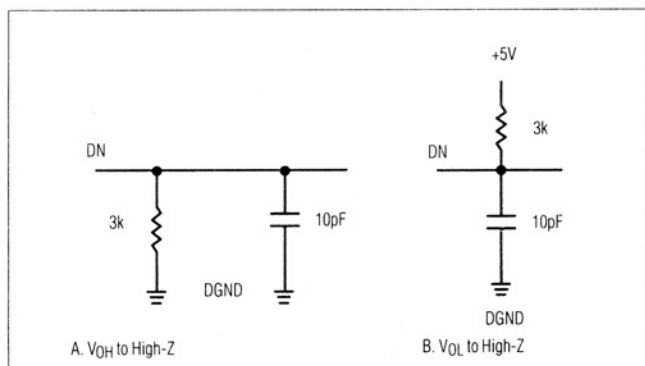

Figure 2. Load Circuits for Data-Hold Time Test
**Note 8:**  $t_7$  is defined as the time required for the data lines to change 0.5V when loaded with the circuits of Figure 2. Specifications subject to change without notice.